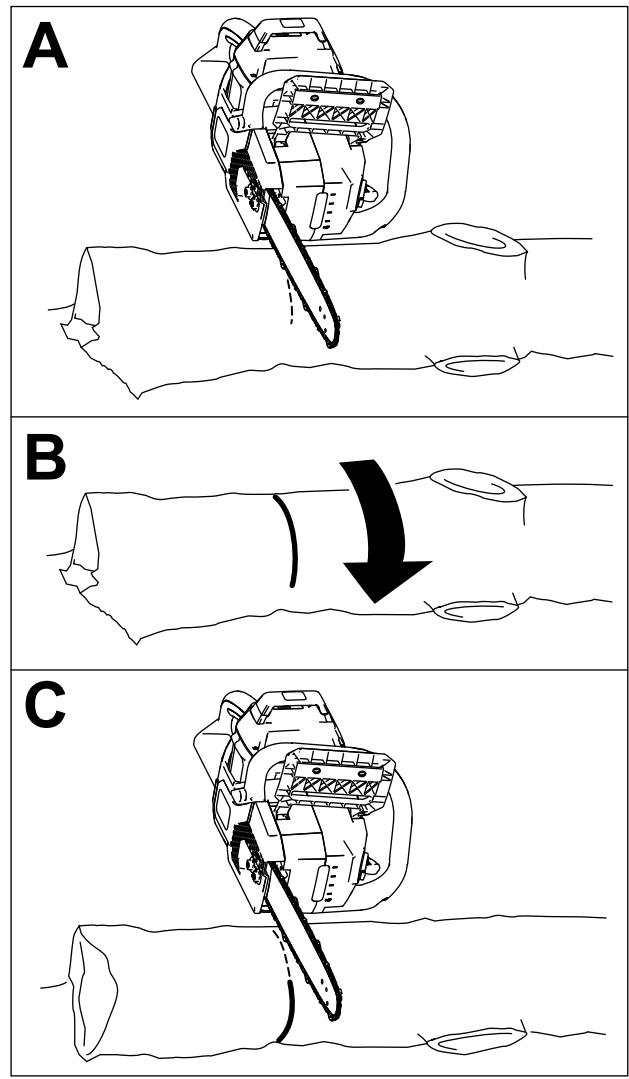

Figure 21
- If the whole length of the log is supported on flat, level ground, cut a third of the diameter from the top, then roll the log over and make another cut to meet the first cut (Figure 21).